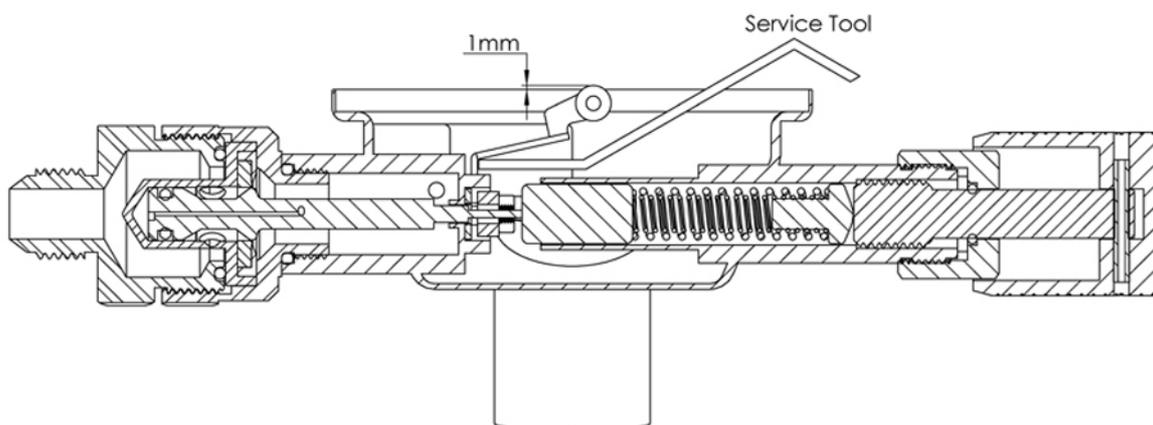

Fig 3.3 Ultraflow 601 Level Position
16. To increase the clearance, place the “disc end” of the DSI service tool inside the Regulator, under the Lever as shown in the diagram (Fig 3.3).